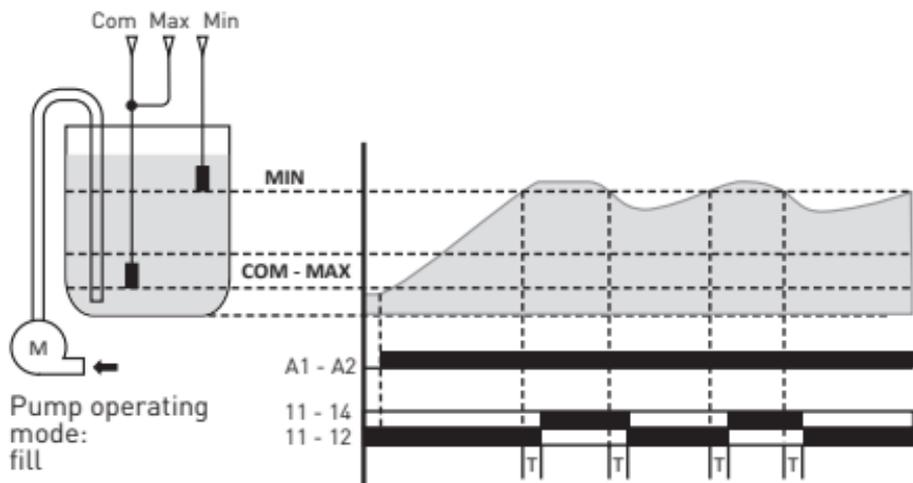

Fig. 11
Level maintaining, two contacts (electrodes), refer to Figure 11. Connect the wires from the sensors to the contact "Min" and the closed contacts "Com" - "Max". Liquid level is below the setting (MIN), contacts 11-12 are closed, the pump runs. When the preset level (MIN) is reached, the relay switches ON with the time delay (T), the contacts switch to position 11-14, the pump stops. The relay is in ON position until the liquid level falls below the setting (MIN). When the relay switches off with the time delay (T), the contacts switch back to position 11-12, pump starts.